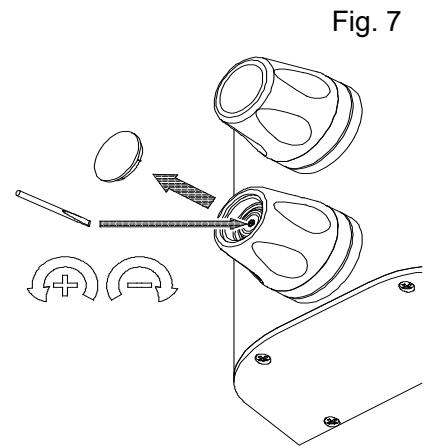

Fig. 7
2.3.4 To adjust the set maximum temperature, remove the temperature control cap (prize plastic ones off using a small screwdriver; or unscrew the metal ones - Horne tool 23-5459 or nitrile gloves are helpful for grip) and adjust the small, slotted screw in the centre of the spindle. Adjust the screw anticlockwise to increase the temperature, clockwise to decrease the temperature. See Fig. 7.